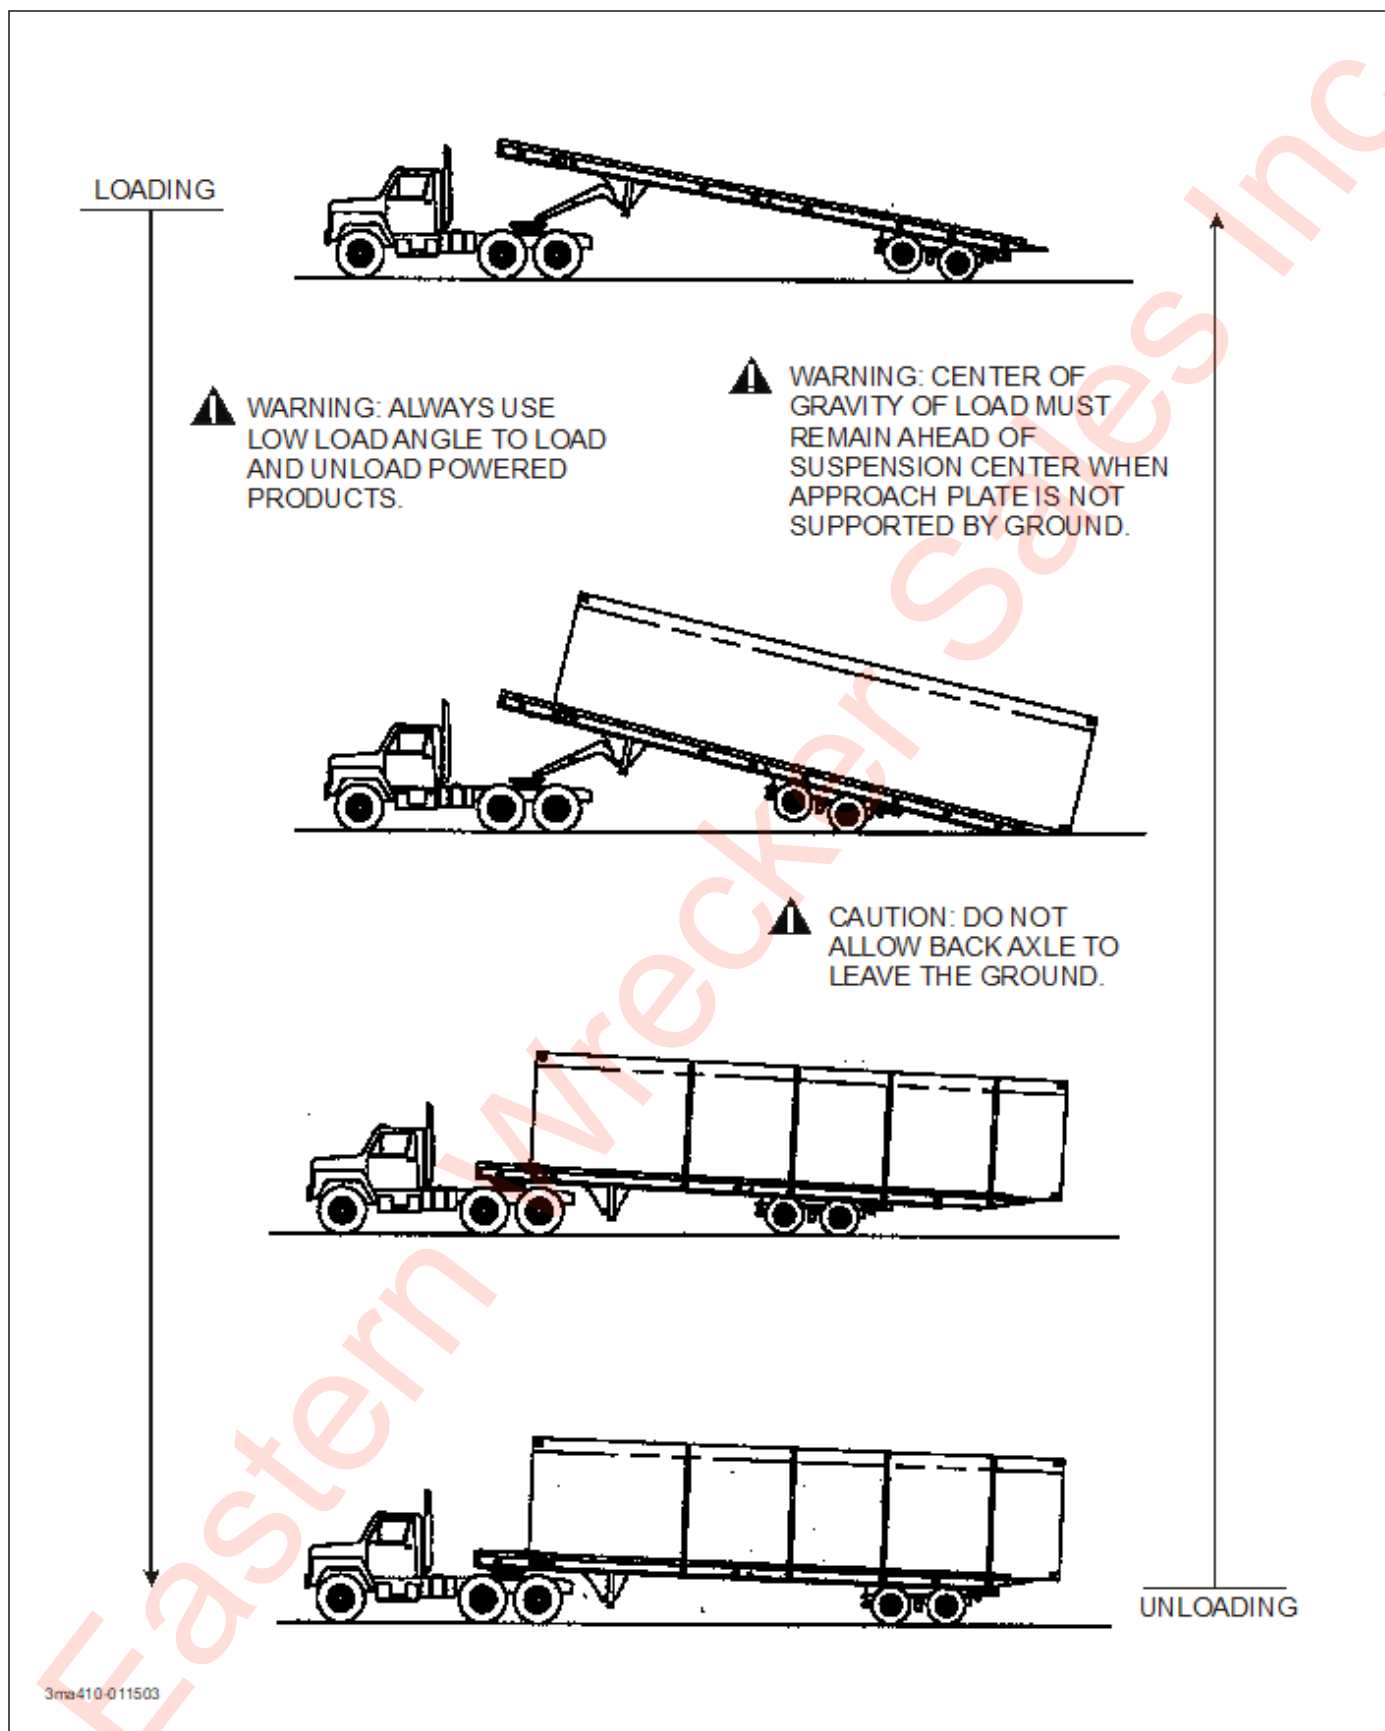

Figure 3-7: Steps for Loading and Unloading
1. Practice all standard industrial safety standards (See **Figure 3-7.**) Do not load any payload that will overload any component of the semitrailer or cause any unsafe condition.
3. Park the tractor/semitrailer in a straight line on level even surface. Set the tractor brakes and release the semitrailer brakes (See **Figure 3-7.**)
1. Practice all standard industrial safety standards (See **Figure 3-7.**)